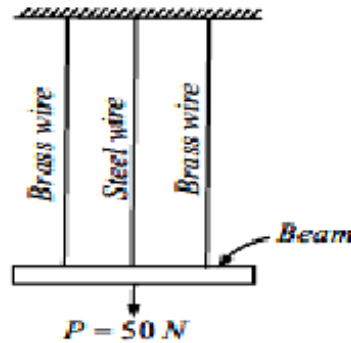

Figure 2
- b) A beam weighing 50 N is held in horizontal position by three wires. The outer wires are of brass of 1.8 mm diameter and attached to each end of the beam. The central wire is of steel of 0.9 mm diameter and attached to the middle of the beam. The beam is rigid and the wires are of the same length and unstressed before the beam is attached. Determine the stress induced in each of the wire. Take Young's modulus for brass as  $80 \text{ GN/m}^2$  and for steel as  $200 \text{ GN/m}^2$ . (Figure 2)